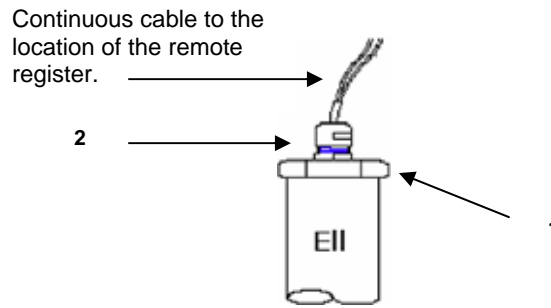
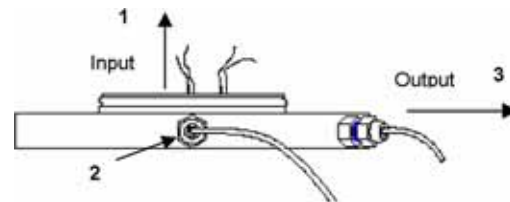

Figure 16
Figure 18
Step 2) NO BASE PLATE WILL BE INSTALLED, only the supplied hex bushing (1) and compression fitting (2) (Figure 16). Screw the hex bushing (1) (with o-rings) into the ell and tighten. Slide the compression fitting (2) over the cable and screw into the hex bushing. Tighten the compression fitting onto the cable and run the cable as required to the remote register mounting location.
Step 4) Push the sensor input cable (1) thru one of the compression fittings (2) on the wall plate. Push any optional output cable (3) thru the other compression fitting. Tighten both fittings onto the cables. (Figure 18)
The procedure is the same as the Meter Mounted Register, except both the compression fitting in the hex bushing on the ell and the input cable compression fitting on the wall plate will need to be removed to run the sensor cable from the bearing assembly through the ell, and over to the remote mounted wall plate. Refer to SECTION 4.4, Step 2, Figure 16, and Step 4, Figure 18 for details.